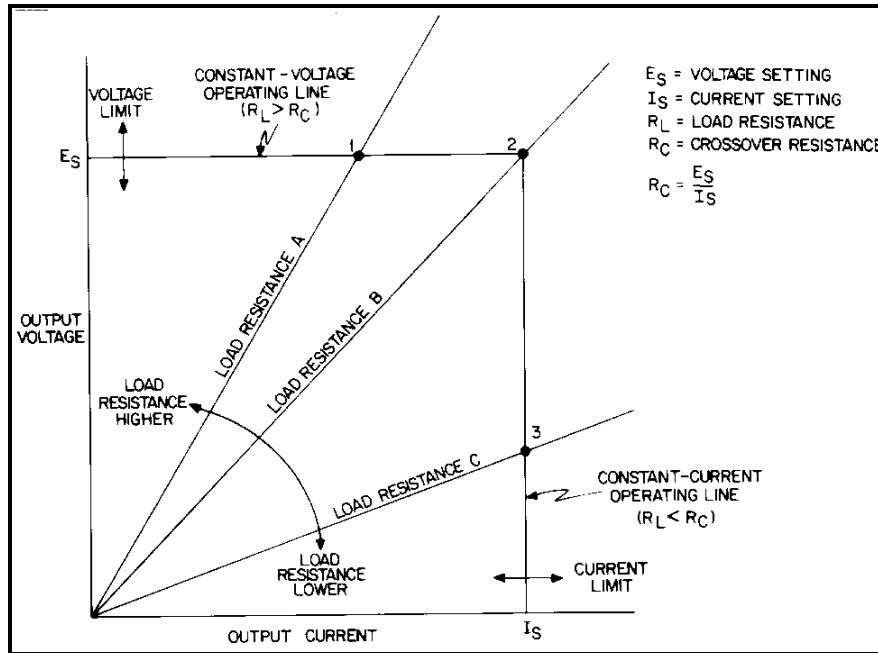

Figure 3-4. Determining Operating Point
The power supply can operate as a constant voltage (CV) or constant current (CC) source over a wide range of output voltage and current combinations. The specifications table contains a graph showing the overall output range of the power supply. Figure 3-4 shows a rectangular operating locus that is defined by voltage and current settings of the power supply. The load resistance determines the point on that locus at which the power supply actually operates. Three load-resistance lines are shown on Figure 3-4. The line representing load resistance A, the highest load resistance shown on the graph,